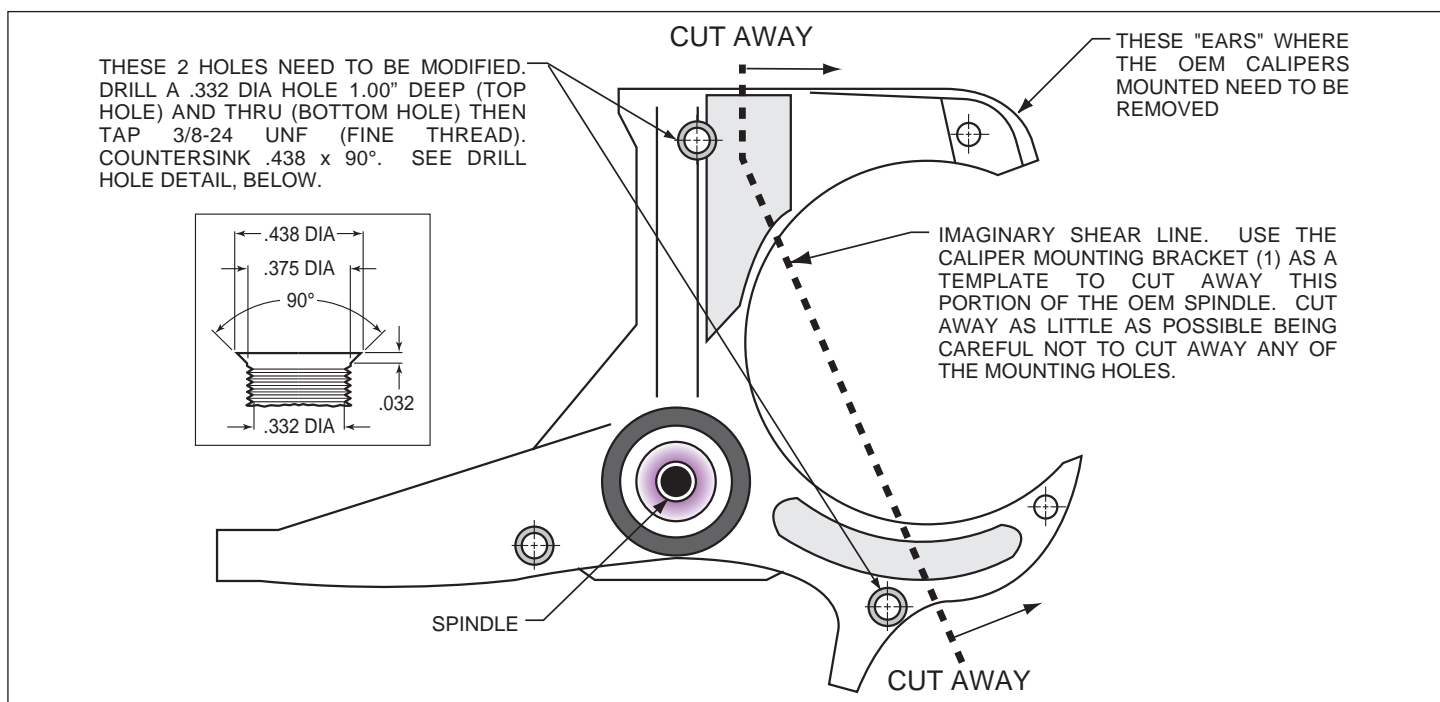

Figure 1. Steering Arm / Spindle Modifications
NOTE: These modifications should be performed by a qualified machinist and completed before assembly of the Wilwood disc brake kit begins. Refer to Figure 1 as necessary (numbers in parenthesis refer to the parts list). Only one view of the steering arm/spindle is shown, but the modifications need to be performed on both steering arm/spindles.
The two OEM holes that will be used to mount the caliper mounting bracket (1) need to be modified. Drill a .332 diameter hole, 1.00” deep (top hole), and thru (bottom hole), Figure 1, then tap 3/8-24 UNF (fine thread). Countersink the holes to .438 x 90°. The “ears” that protrude to form a “C” shape need to be removed to facilitate the installation of the Wilwood kit. Using the bracket as a template, mark two cut marks on the steering arm. Remove as little as necessary from the “C” shape, being careful not to cut away any of the mounting holes required to bolt on the bracket.